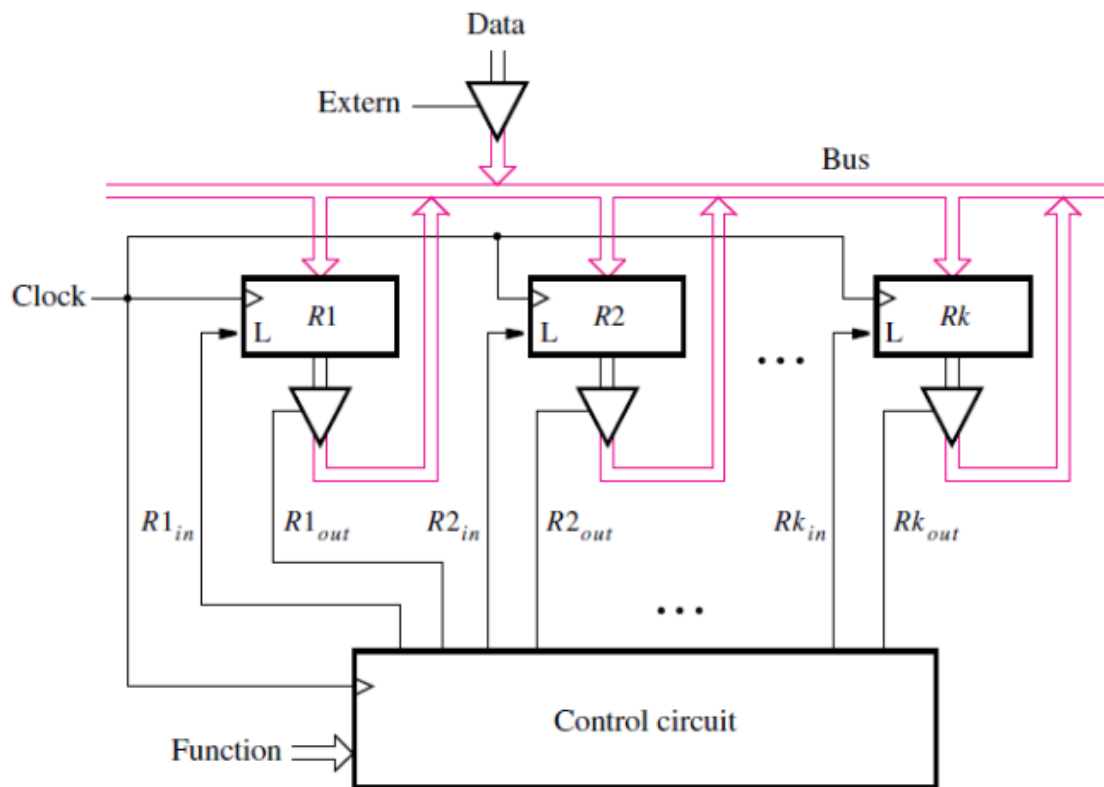

Fig 12.1 A digital system with  $k$  registers.
- Consider a system that contains k n-bit registers, R1 to Rk. Figure 12.1 shows how these registers can be connected using tri-state drivers to implement the bus structure. The data outputs of each register are connected to tri-state drivers. When selected by their enable signals, the drivers place the contents of the corresponding register onto the bus wires. The enable signals are generated by a control circuit.
- In general, the control circuit could perform a number of functions, such as transferring the data stored in one register into another register and controlling the processing of data in various functional units of the system. Figure 12.1 shows an input signal named Function